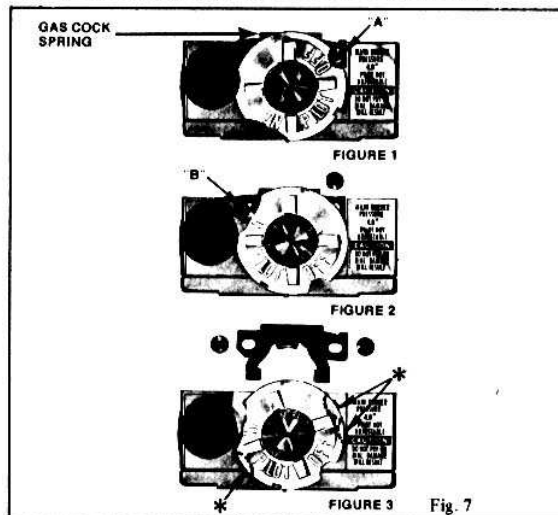

Fig. 7
2. Rotate gas cock dial to position as shown on Fig. 7 and remove retaining screw "A".
3. Rotate gas cock dial to position as shown on Fig. 7 and remove retaining screw "B". Remove spring.
4. Rotate gas cock dial to position as shown on Fig. 7.
5. Grip dial with thumb and fingers as shown on Fig. 7* and lift assembly straight out of cavity. Rotate plug slightly if necessary.